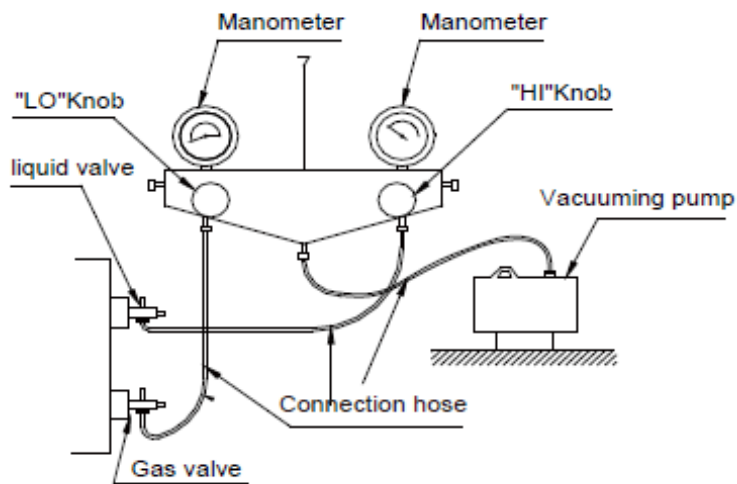

Figure 9: Expelling Gas from the Indoor Unit and Refrigerant Pipe
3. As shown in Figure 9, expel the gas inside the indoor unit and refrigerant pipe out using vacuum pump.